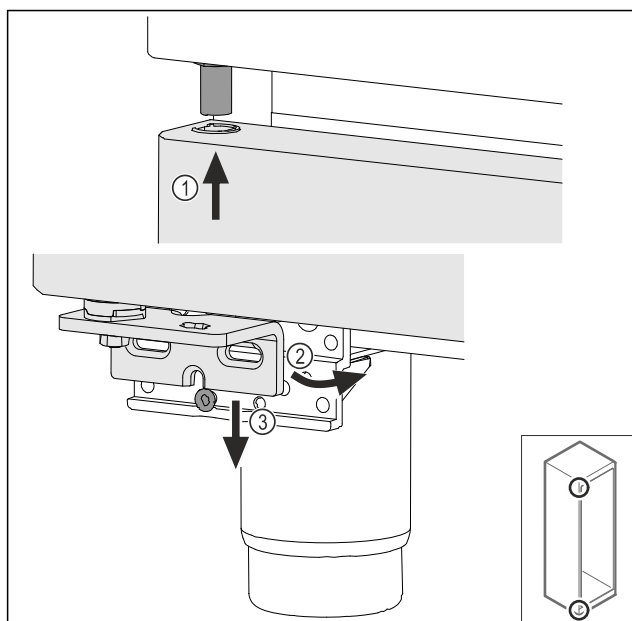

Fig. 43
- ▶ Insert the door slightly tilted at the top Fig. 43 (1), align the door straight Fig. 43 (2) and place it on the bottom of the swap bearing block screw Fig. 43 (3).